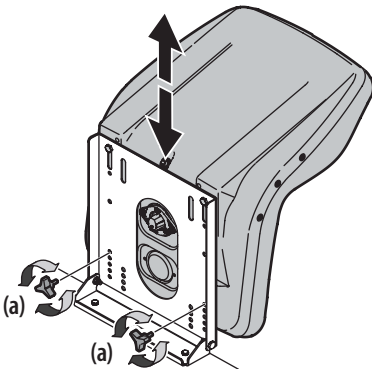

Figure 16
1. Remove the knobs (a). See Figure 16.
3. Replace the knobs into one of the four hole settings and tighten securely. See Figure 16.